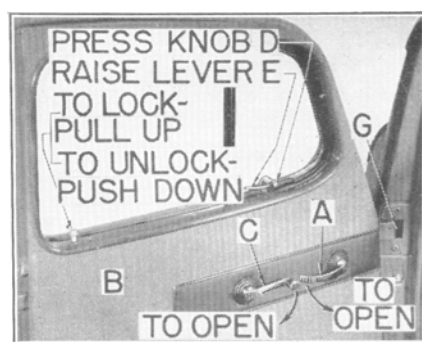

Figure 54
To lock the car from the inside, or outside without using the key, pull up on the small knob (B) projecting from the door window finish moulding. See Fig. 54. To unlock the lock from the inside push down on the knob.
The doors are opened from the inside by pushing down on handles (A), Figs. 54 & 55. These can be operated only when the locking knob (B) is pushed down.
The door windows are operated by turning handles (C), Figs. 54 & 55.
Ventilator wings—friction type are unlocked by pressing knob (D), Fig. 54, and raising handle (E).
chassis lubricant on the spring contact surface (G) of the concealed hinge, see Figs. 54 and 55.